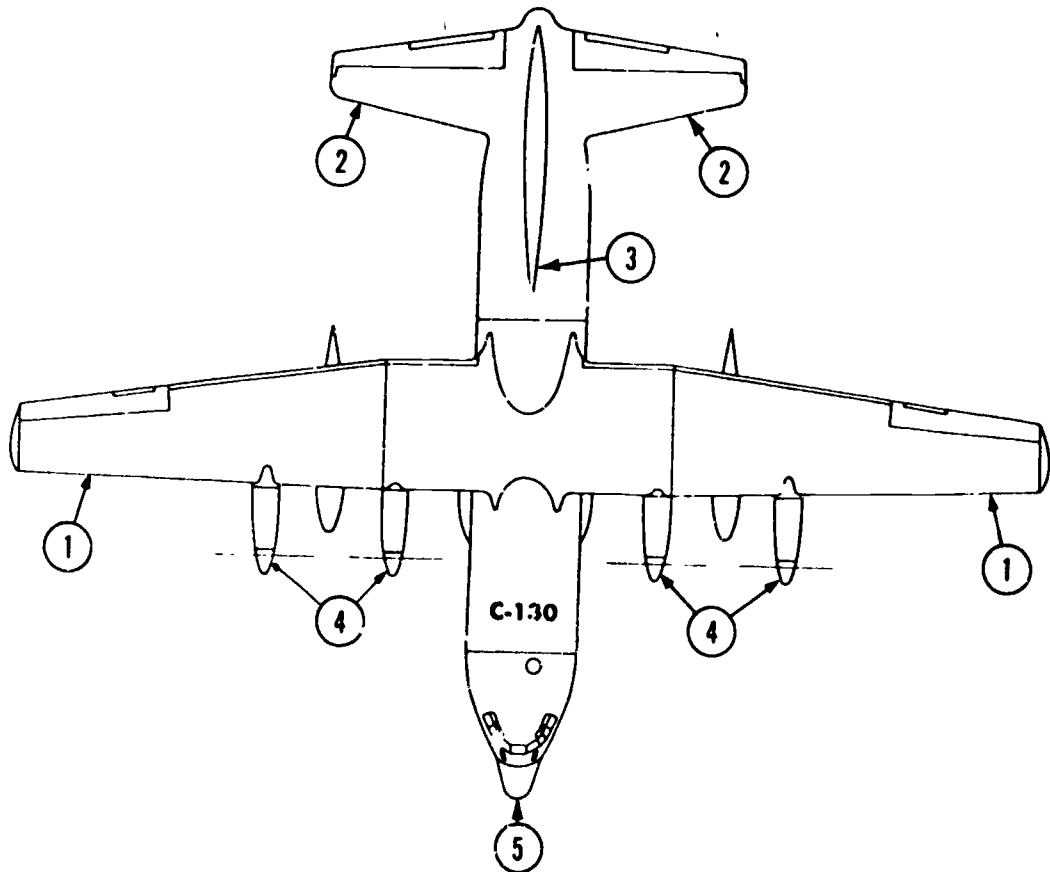

Figure 1.
The sketch that was used in the previous text is shown again in figure 1 below. Note that item 4 points to the engines. If the aircraft flies into an area where icing conditions are taking place, the ice will build up on the engine air intake ducts. In fact, ice will build up in the engine inlet area sooner than on the leading edges. This is due to the increase in air velocity at the engine air intake which causes a lower temperature.